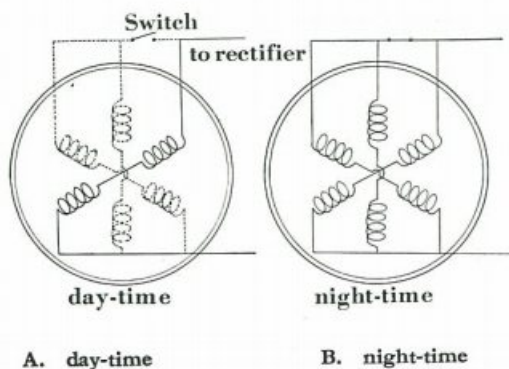

Fig. 10-1-2 A.C. generator wiring diagram
Six generating coils are incorporated into the stator in parallel, and produce electromotive force with the run of motor. When the ignition switch is placed on the daytime position, only two coils, C_1 and C_2 produce electromotive force as shown in the Fig. 10-1-2 (A). When it is placed on the night position, however, switch "S" is closed (Fig. 10-1-2 (B)), and all the coils, C_1 - C_6 produce electromotive force to meet the electrical load, because the power is used for the head lamp and others.